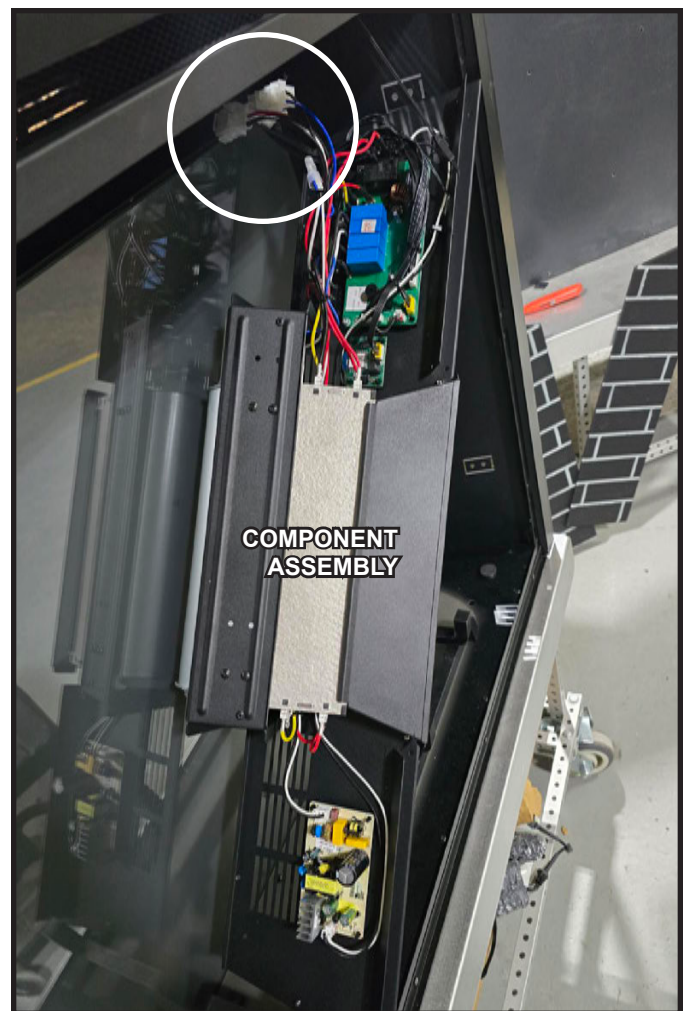

Figure 7 Component Assembly Connectors
6. Slowly lower the component assembly until cable connectors are accessible. See Figure 7.
7. Disconnect the quick connect cables, and carefully remove the component assembly from the appliance. See Figure 7.